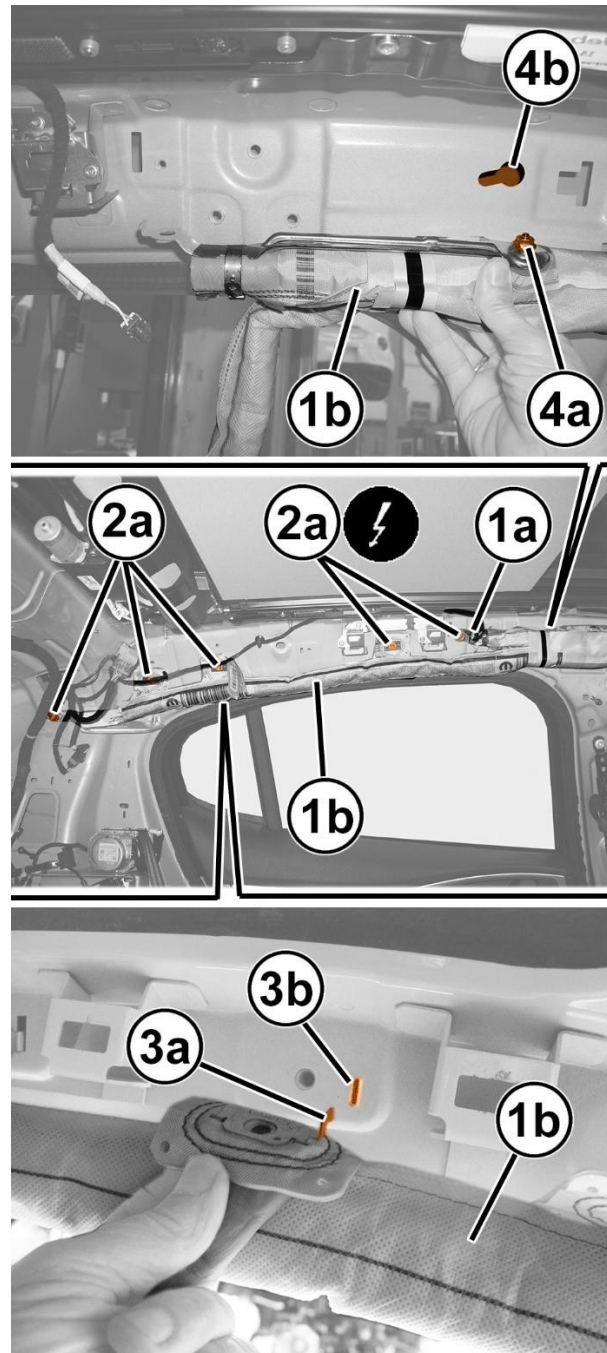

Figure 25 – Side Curtain Air Bag
57. Disconnect the electrical connection (1a) from the side curtain air bag module (1b) (Figure 25).
58. Remove the screws (2a) securing the rear of side curtain air bag module (1b) (Figure 25).
59. Release all the retainers (3a) for the side curtain air bag module (1b) from their housings (3b) on the vehicle, on both the rear and front (Figure 25).
60. Remove the side curtain air bag module (1b) after disengaging its retainer (4a) from its housing (4b) (Figure 25).